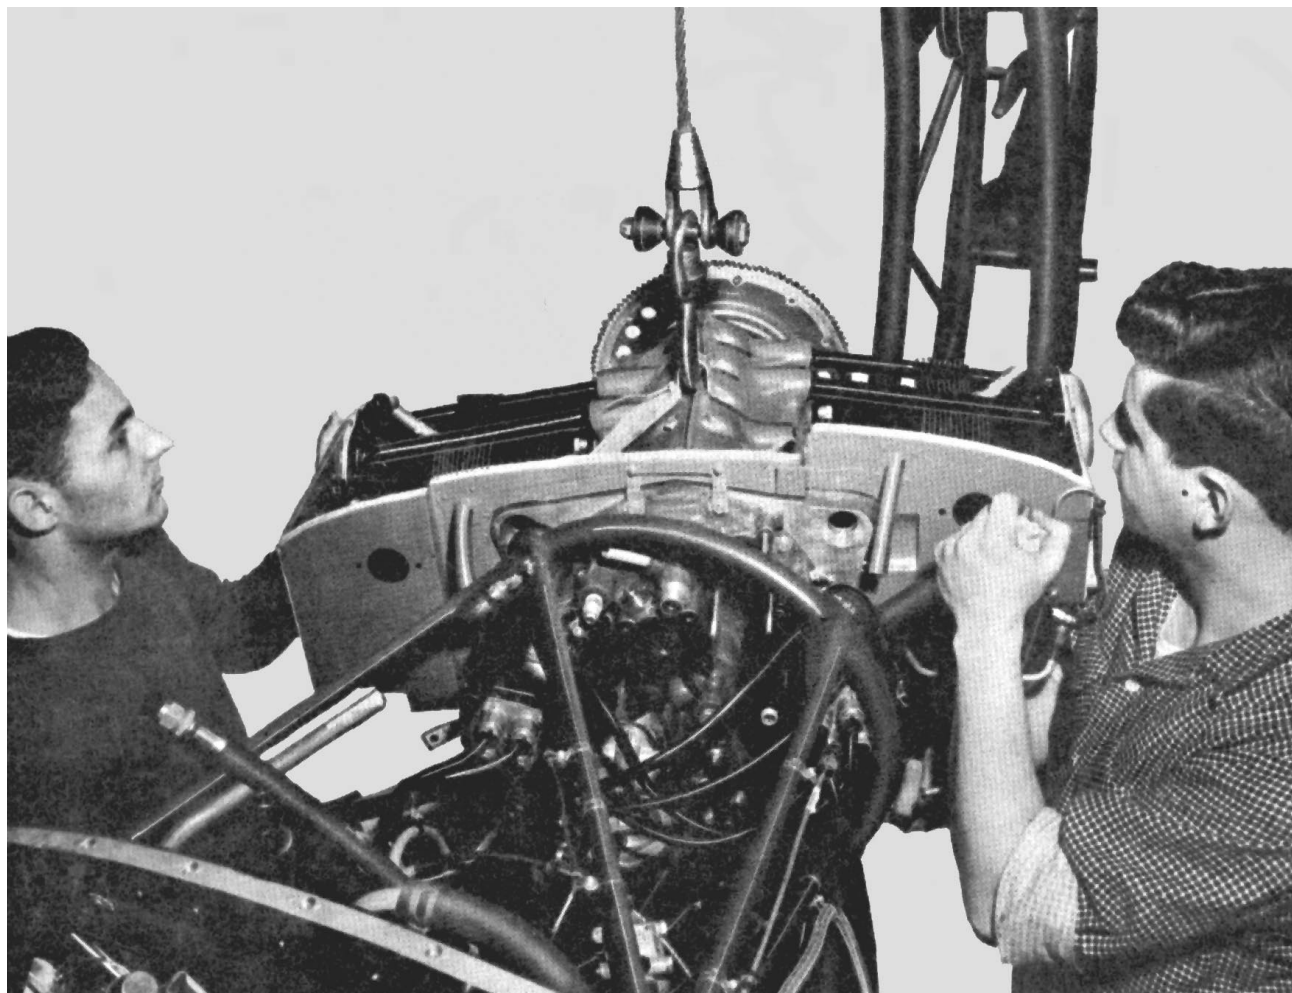

Figure 8-5. Installing the Engine
h. Attach a one-half-ton hoist to the hoisting hook and lift the engine. Tilt the rear of the engine downward and set it askew until the magnetos clear the ring of the engine mount. (Refer to Figure 8-5.) Position the mounting lugs of the engine so they align with the engine mount attaching points.